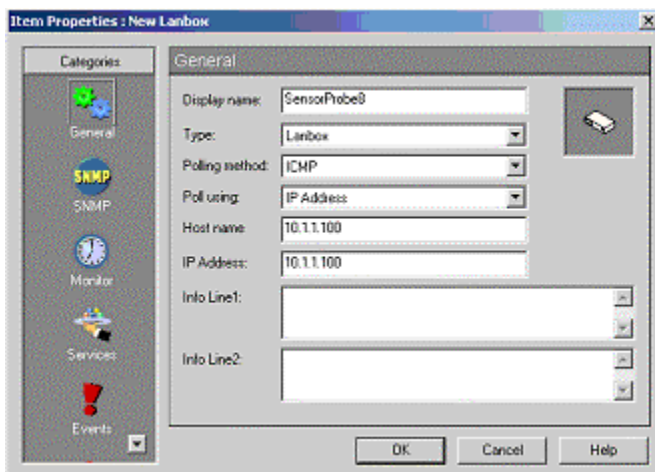

Figure 2 General Property page
3.2 On the left pane, select General (see Figure 2).
3.1 Double click the ServSensor icon on the network map to open the item properties dialog box shown in Figure 2.